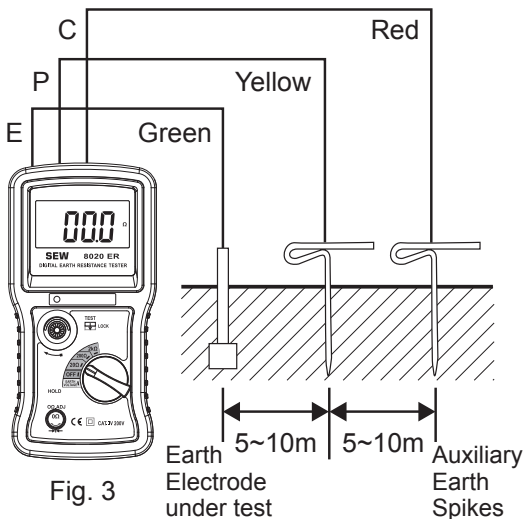
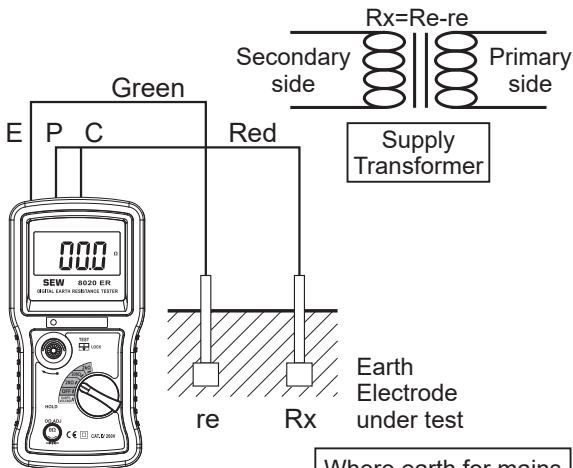

Fig. 3
Fig. 4
- f. Connect green, yellow and red test leads to instrument terminals E, P and C with auxiliary earth spikes P1, C1 stuck into earth "IN A STRAIGHT LINE". (Fig. 3)
***Follow the proper connection such as Fig. 3, the LED(red) indicator will lit. This proves a correct current circulation is under its operation.**
- (3) Simplified earth resistance measurement method
- a. This method is recommended where an earth resistance higher than 10Ω is measured or where it is not possible to drive auxiliary earth spikes. An approximate value of earth resistance can be obtained by the two wire system where is shown in Fig. 4.